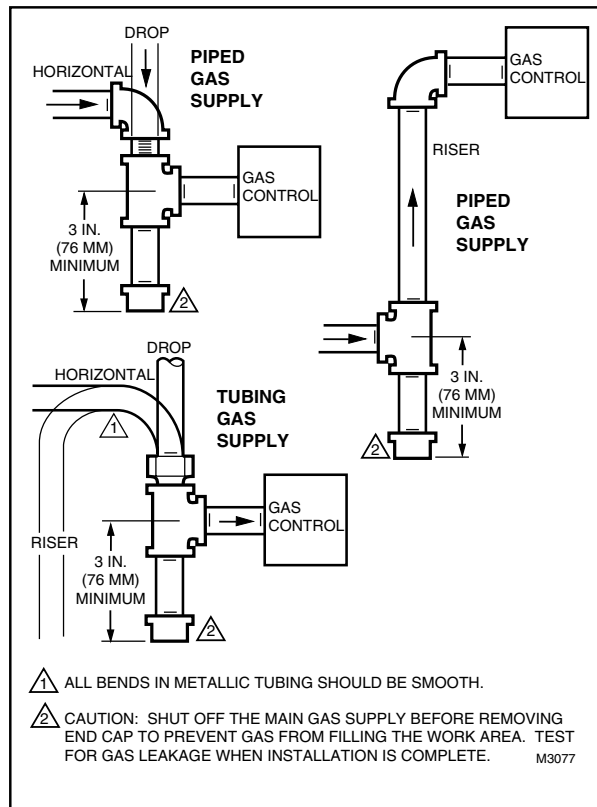

Fig. 2—Sediment trap installation.
3. Install sediment trap in the supply line to the gas control. Refer to Fig. 2.
1. Remove pilot adjustment cover screw. Refer to Fig. 2 or 3.
2. With main burner operating, check gas control outlet gas flow using the meter clocking method or pressure using a manometer connected to the outlet pressure tap on the gas control. Refer to Fig. 2 or 3.